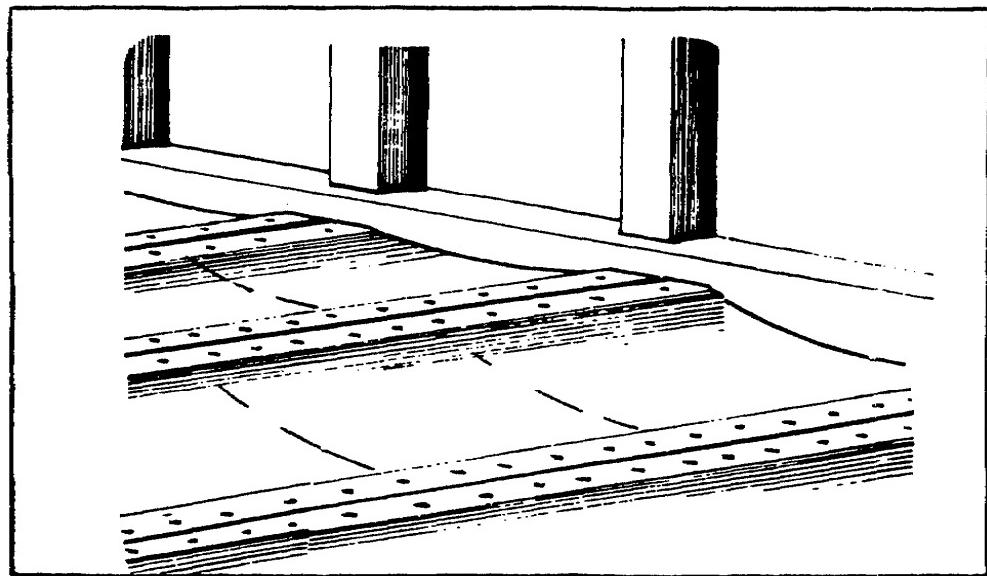

Figure 2-10. Example of Unacceptable Warping of MILVAN Floor.
*2.1, 2.2, and 2.5, 2.6, and 2.7.* Now, turn your attention to the floor of the MILVAN. Examine the floor of the MILVAN for any curvature. This would permit shifting of even well-braced cargo. Inspect for any breaks or holes in the floor. Inspect for any splintering, warping, or rotting of the floor boards (figure 2-10). Check the floor fasteners for any that are corroded, missing, sheared, or loose. Any condition that endangers the cargo, the equipment, or personnel is sufficient cause for rejection. Floor stains and separation of joints also constitute a hazard to the shipment.